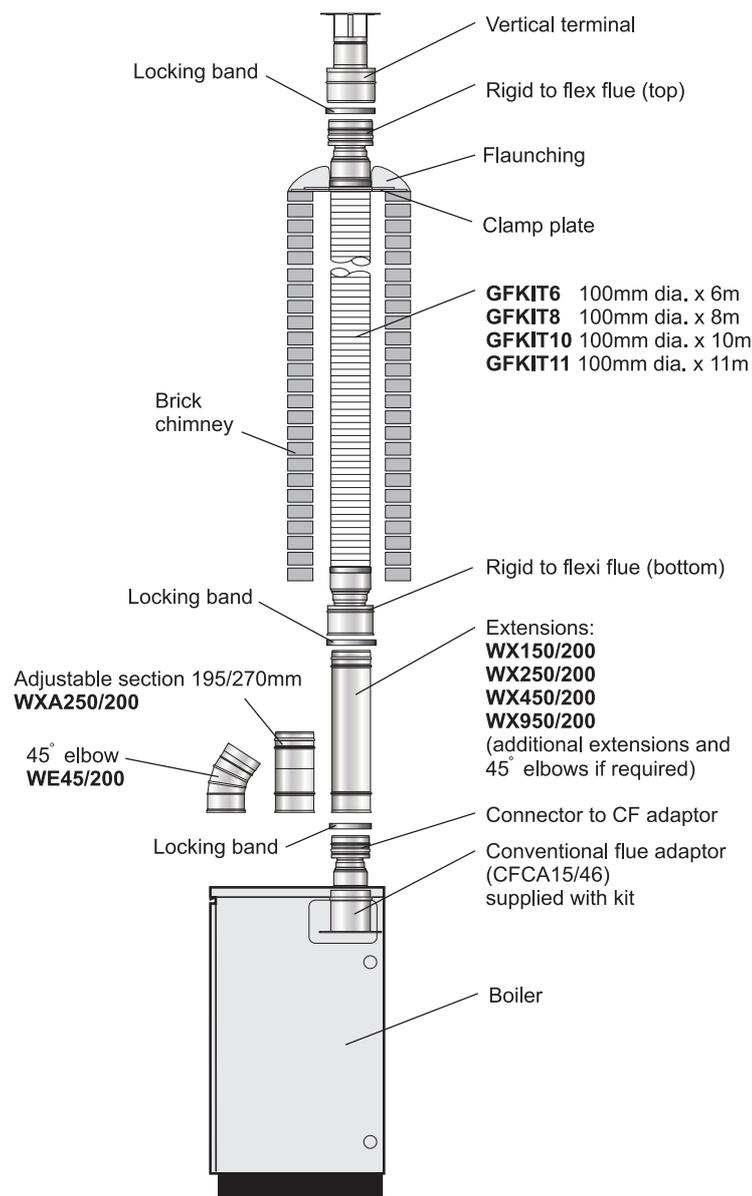

Fig. 13 - Vortex Combi typical conventional flue with brick chimney
See Figs. 13 and 14
Care must be taken to ensure the flue system is suitable for the very low flue gas temperatures and condensate in the flue gases - suitable conventional flue systems (Orange system) are available from Grant UK - see Fig. 13 and page 24.
- 3 The flue terminal must be at least 600 mm from any opening into the building, and 600 mm above any vertical structure or wall less than a horizontal distance of 750 mm from the terminal. See Fig. 13.
### Grant EZ-Fit Flexi Pack conventional flue system (Orange System) - See Fig. 13